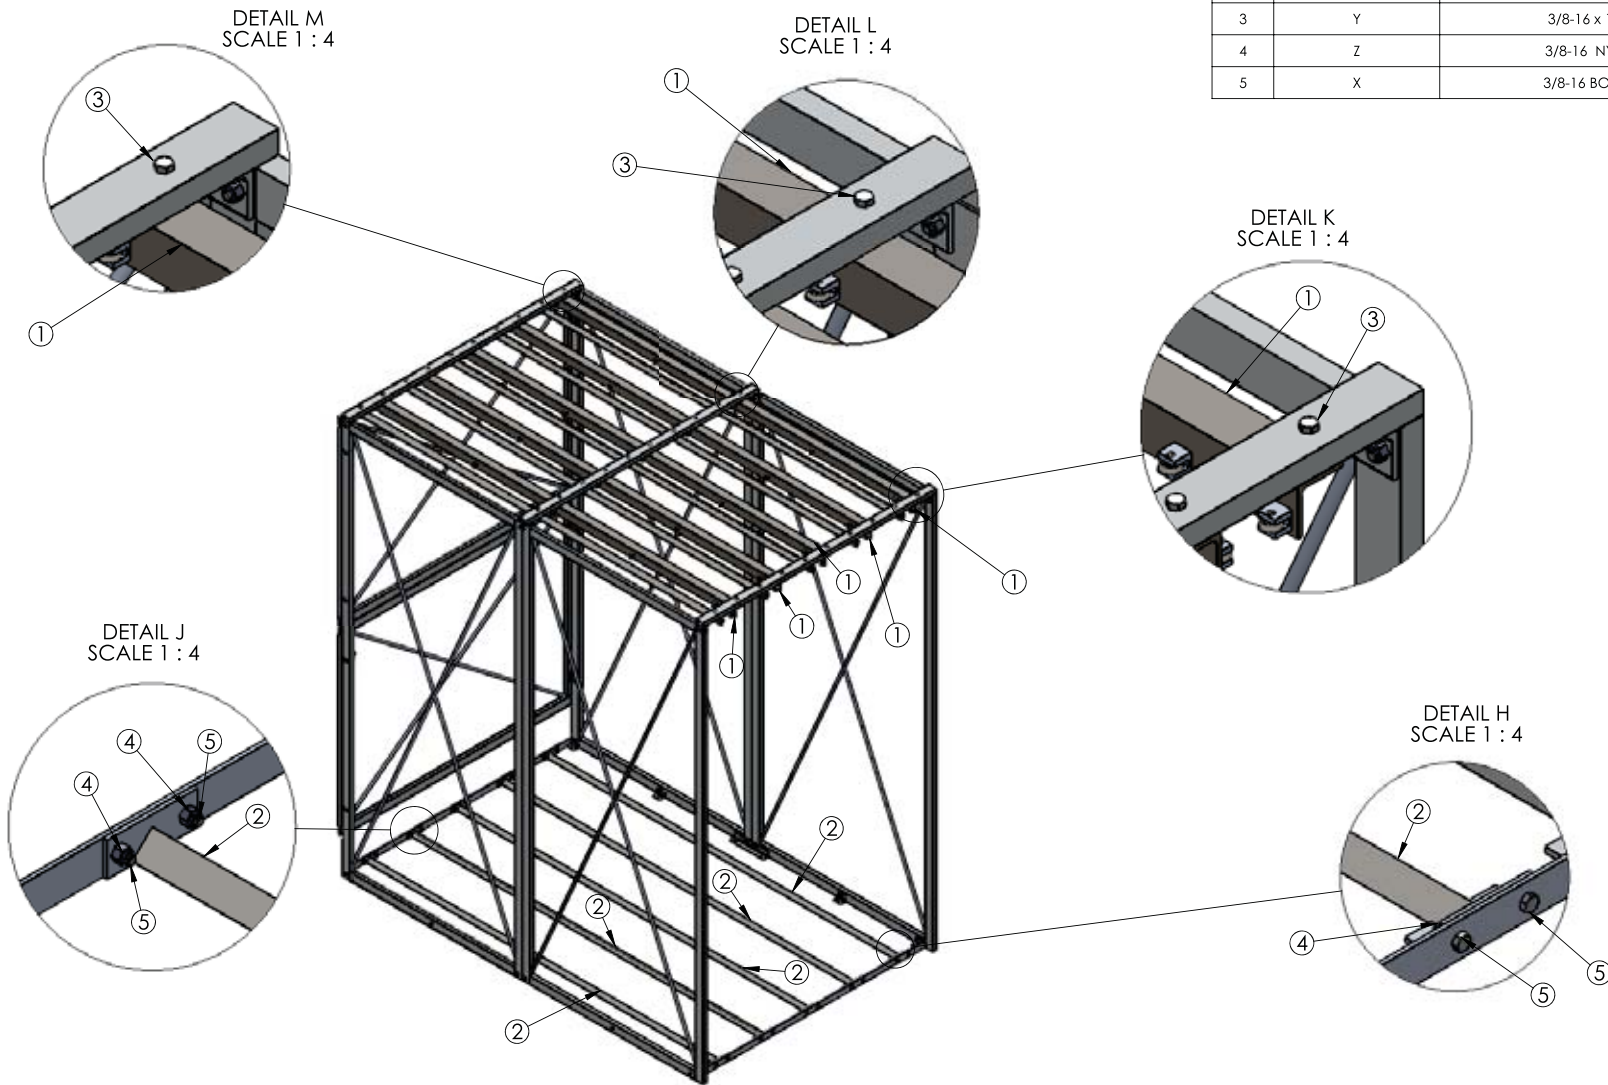

Figure 3
7. Attach angle groove “L” to front and rear bottom supports using bolts X and nuts Z. **(Figure 3, detail H & J)**
8. Locate topside cross members “G” (3pcs) and attach on each end and in the middle on top with bolts Y and nuts Z. **(Figure 3, detail M, L, & K)**
9. Locate top guides “H” and “I” and attach from underneath to topside cross members with bolts Y and nuts Z. When facing the opening, the slotted top guide “H” should be on the right, and “I” on the left. Attach the ends and then middle with bolts Y and nuts Z. Be sure to leave the nuts loose on I, as this will be slid over to the left to tighten when the framed mesh racks are attached. **(Figure 3, detail M, L, & K)**
16. Once all frame assemblies are complete, insert the rear end of mesh frame with border into the cage, centering the frame between the two top guides (H and I). Push all the way to the rear, and the front caster should stop when it contacts the front bottom support (K). Once in place, slide slotted top guide into top of frame border, closing the gap around the top of the border. Repeat with four remaining frame assemblies. **(Figure 3, detail L & K)**